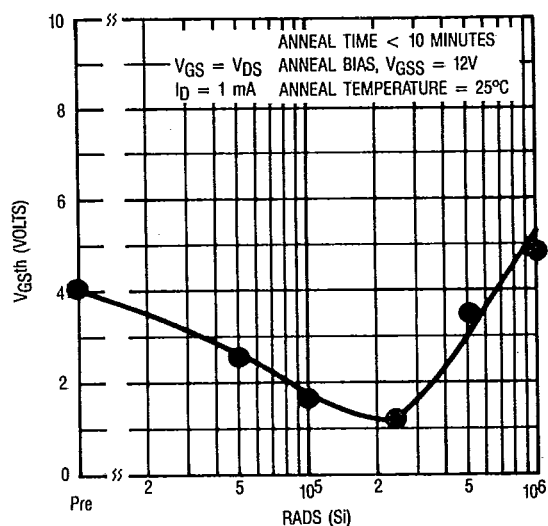

Fig. 1 — Typical Response of Gate Threshold Voltage Vs. Total Dose Exposure[®]
Low dose rate testing is performed following MIL-STD-750C, test method 1019. Refer to notes ⑥ and ⑦. The lot is evaluated with two different test circuits. Device performance is presented in table 1. The values in table 1 will be met for either of the two low dose rate test circuits that are used. In addition, Rad Hard HEXFETs have been characterized for their post radiation response. Typical curves showing radiation response as well as post radiation response appear in figures 1 through 8.